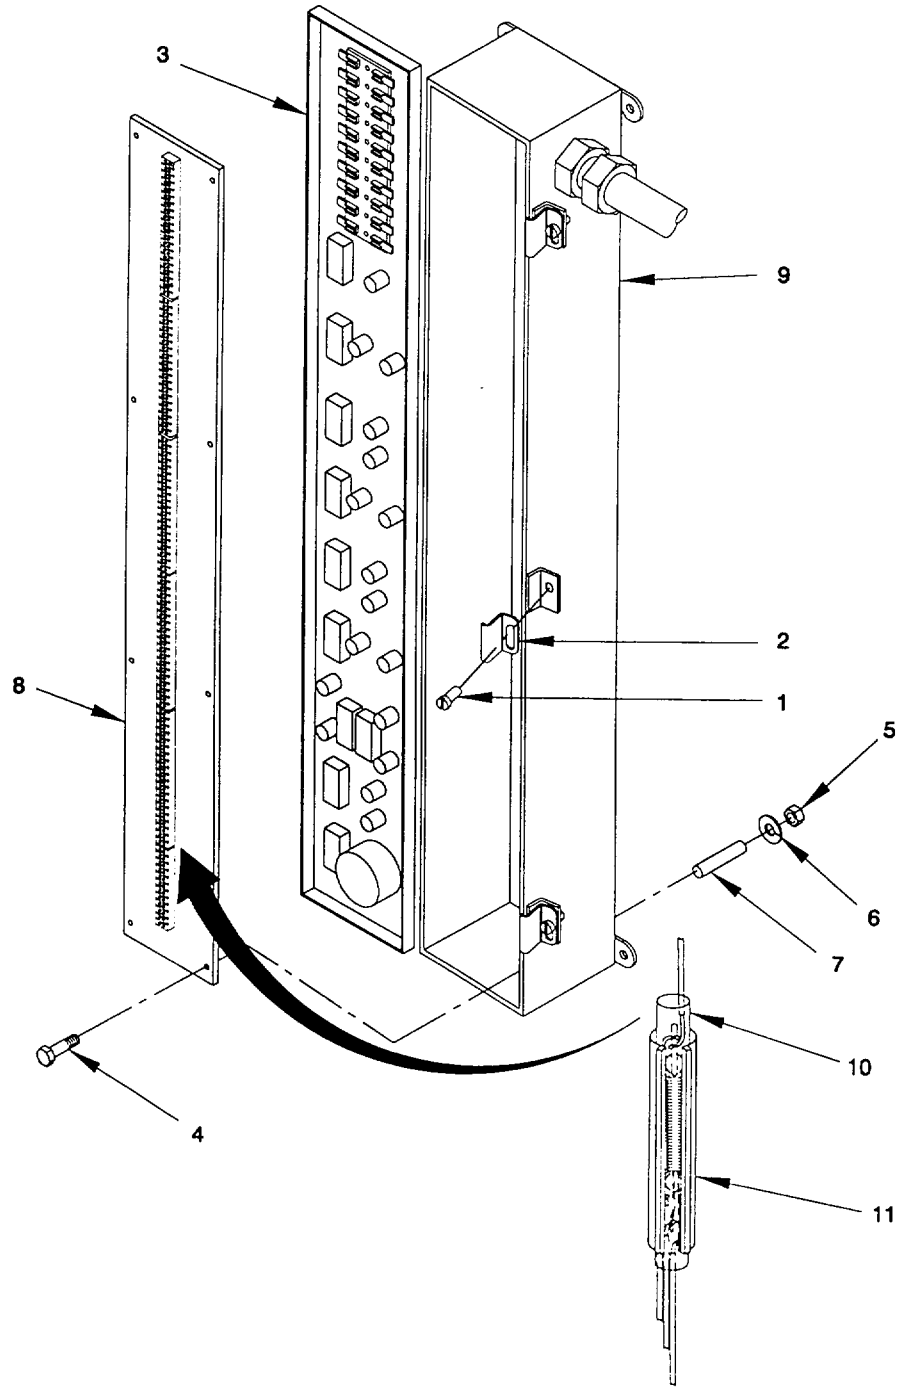

Figure 2-157. Reed Switch Assembly, Mast Enclosure, Remove/install.
a. Remove. (figure 2-157)
- (1) Remove three screws (1) and three clamps (2) securing door (3) to mast enclosure (9).
- (2) Open enclosure door (3) to access interior of mast enclosure (9).
- (3) Disconnect and tag all electrical connections to the reed assembly (10) and back plate (8) before disconnecting wiring. Refer to Appendix G for wiring list and terminal layout.
- (4) Remove eight pan head screws (4), eight hex nuts (5), and eight lockwashers (6) and eight standoffs (7), freeing back plate (8) from enclosure (9).
- (5) Remove the reed switch assembly (10) from clip (11) along with the four wires leading to it.
b. Install. (figure 2-157)
- (1) Insert reed switch assembly (10) into clip (11).
- (2) Secure back plate (8) to enclosure (9) using eight standoffs (7), eight pan head screws (4), eight lock washers (6) and hex nuts (5).
- (3) Connect all four wires leading from the reed switch assembly (4) and other electrical connections leading to the back plate (8). Refer to Appendix G. Use tie wraps to secure any loose wires.
- (4) Close mast enclosure door (3) and secure with three clamps (2) and three screws (1).